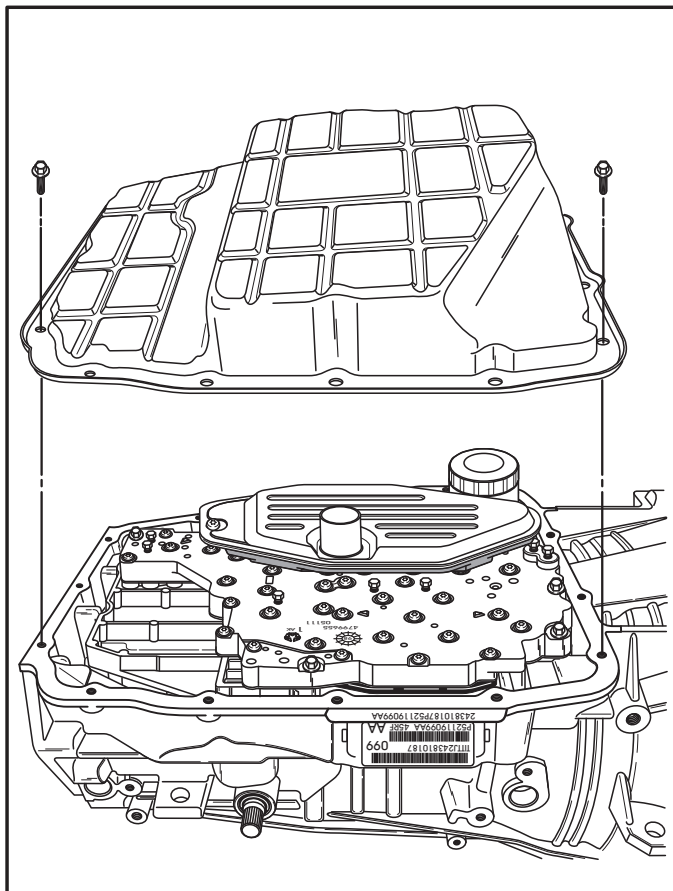

Figure 31
10. Remove the 15 bottom pan bolts, using an 8mm socket, as shown in Figure 31.
11. Remove bottom oil pan as shown in Figure 31.